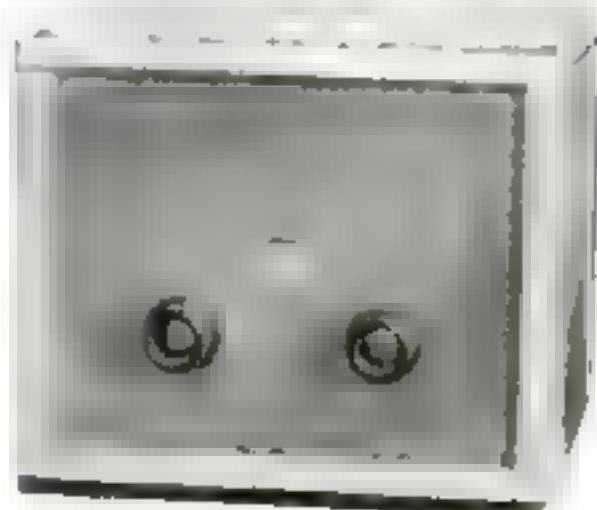

Fig. 3. The neat panel layout of the first prize set. The drawing at right shows the grid condenser on plate of the tuning condenser
**FIGURE 3** shows a front view of the set. The knob at left controls tuning and the one on the right controls regeneration and, in addition, actuates the filament switch when the tickler coil is turned to the extreme nonregenerative position. The dial is fitted back of the panel and is made of a disk of aluminum to which is attached a hand lettered scale. The scale moves past a window cut in the panel, which is made of pressed wood board with the unfinished side out. The dial opening in the panel is covered, on the side toward the cabinet, with a thin sheet of transparent celluloid cemented on.